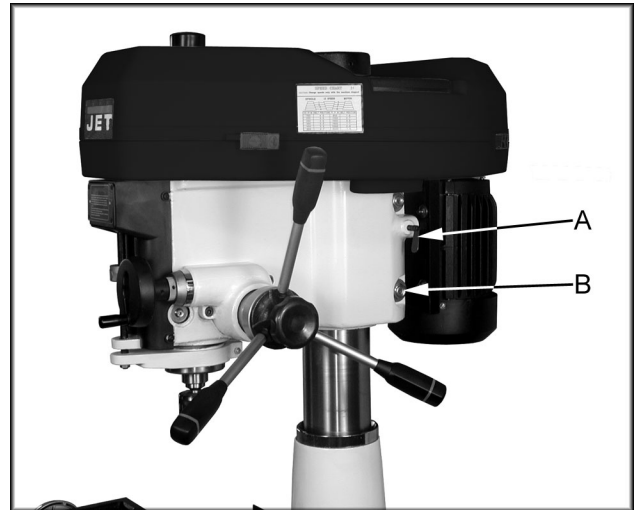

Fig. 9
**Motor Mount Lock Lever: (A, Fig. 9)**
**Head Pivot Lock: (B, Fig. 9)**
Located at left rear of head casting. Loosen head pivot lock nuts (B, Fig. 9) and turn handle clockwise to raise head on the column and counter-clockwise to lower head.